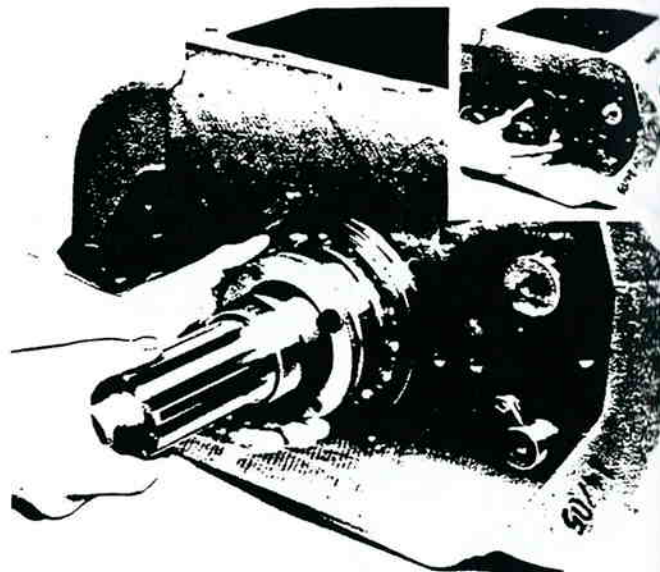

Figure 13-141. Centering Mainshaft Assembly.
3. Temporarily install the coupling gear, counterbore toward front of transmission, and partially reassembled output shaft assembly, engaging splines of output shaft with those of coupling gear, to center the rear of mainshaft assembly (figure 13-141).